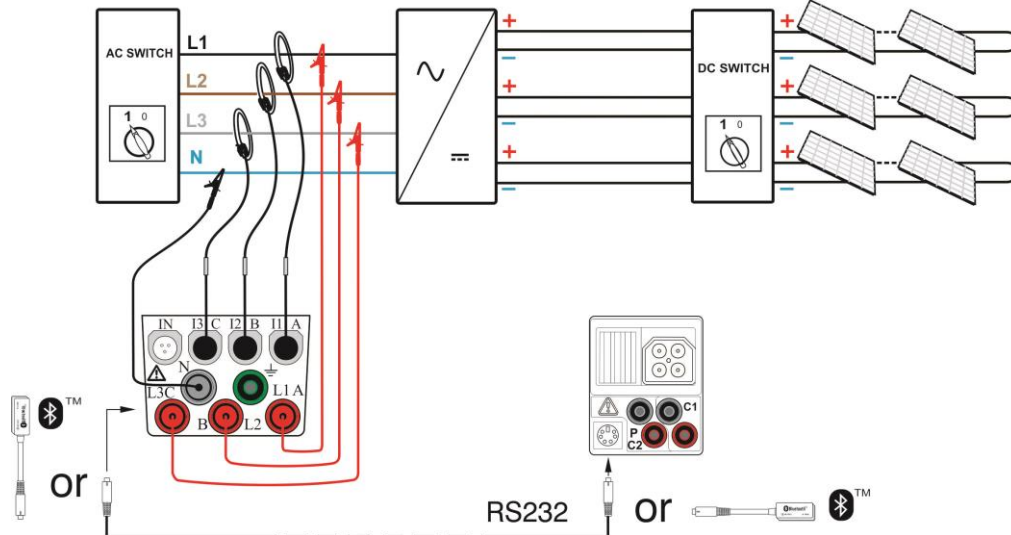

Figure 5.20: Connection to Metrel Powermeter for 3 phase AC measurements
- **Connect** universal PV test lead or PV safety probe and DC current clamp to the EurotestPV Lite instrument (see figures 5.20 to 5.22).
- **Connect** voltage test leads to L1, L2, L3 and N at the output side of the inverter (see figures 5.20 to 5.22).
- **Connect** accessories to the PV system (see figures 5.20 and 5.22).